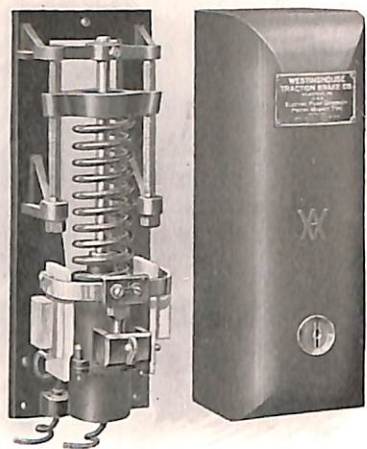

Fig. 16. G-1-D Electric Compressor Governor
1. *G-1-D Electric Compressor Governor*, Fig. 16, which is fully described in Instruction Pamphlet T5042.